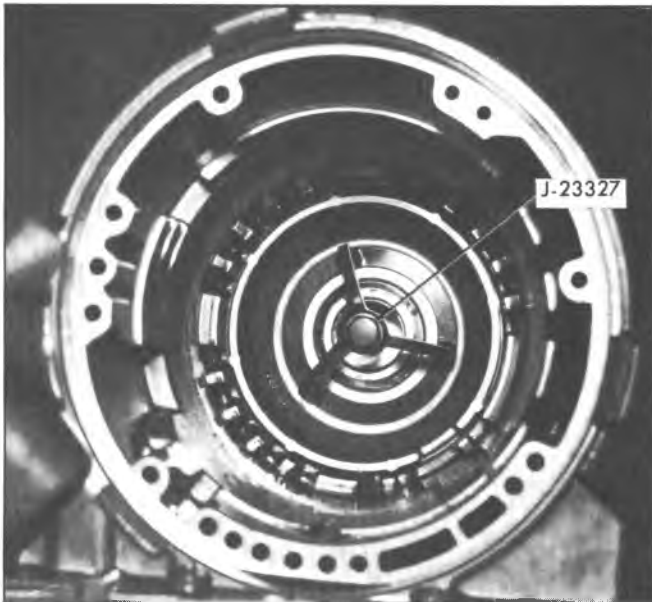

Fig. 45M--Compressing Low and Reverse Clutch Piston Spring Retainer
21. Compress low and reverse clutch piston spring retainer using tool J-23327 (fig. 45M) and remove piston retaining ring and spring retainer.